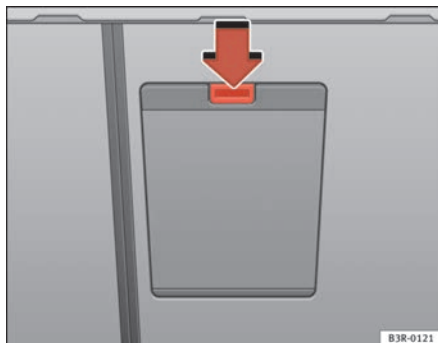

Fig. 120 Detailed view of the rear of the rear backrest: Ski bag cover
- Press the release catch for the ski bag cover ⇒ fig. 120 -arrow- and swivel the cover downwards.